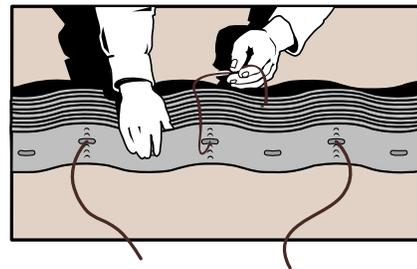

Figure 10 Tendon Insertion
- Feed individual tendons through tendon slots in the collapsed Geoweb® sections prior to section expansion. Refer to Figure 10.